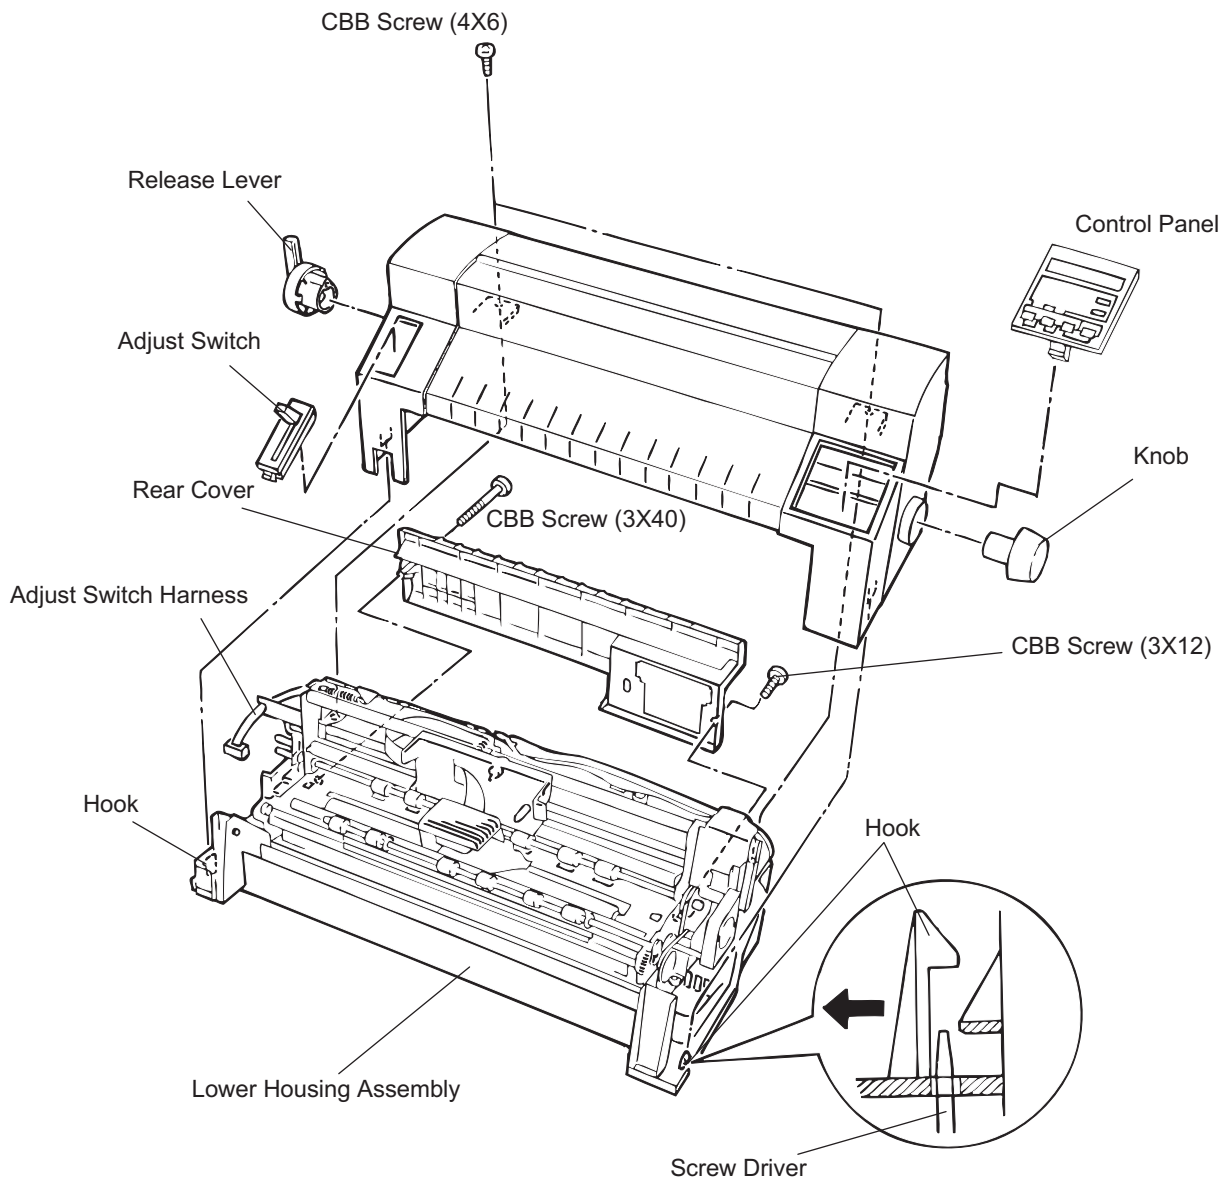

Figure 3-10. Upper Housing Assembly Removal
- Step 2) Insert your hand to the back of the adjust switch (Refer to Figure 3-10 for location.), and release 2 hooks fixing the adjust switch to the upper housing assembly. Then remove the adjust switch along with the harness for the adjust switch and the FG terminal.